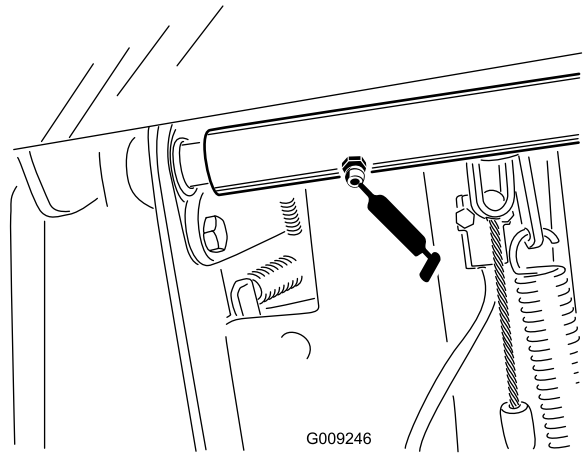

Figure 53
- Brake shaft pivot bearings (1) (Figure 53)